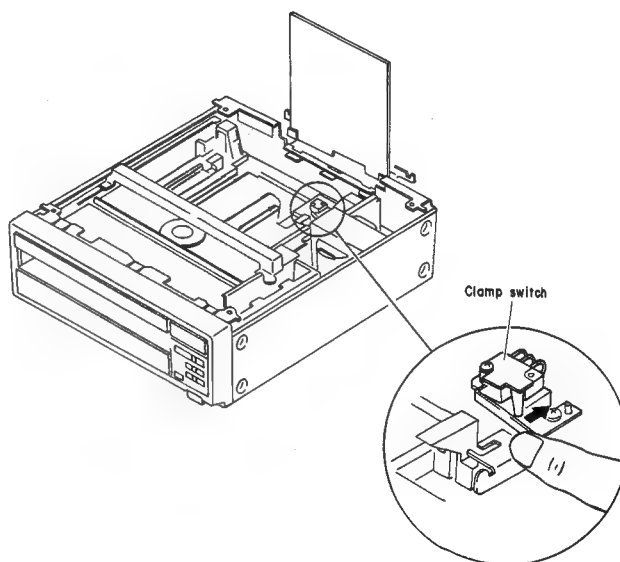

Fig. 9-2
8. Remove two screws ① to remove the stop plate.
9. Remove screw ② and the plastic rivet to remove the switch metal assembly.
11. Turn the POWER switch to ON and immediately turn on the clamp switch on the rear panel. (Fig. 9-2)